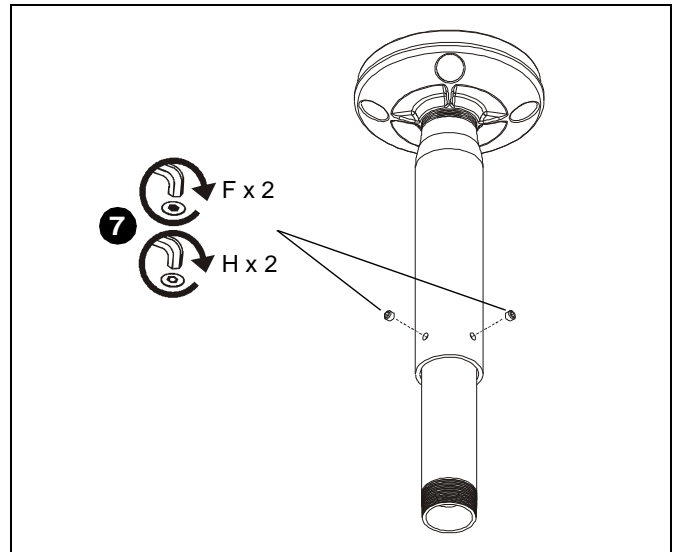

Figure 4
- Install and tighten set screws (standard (F) or security (H), as desired) using key (G) (See Figure 4).